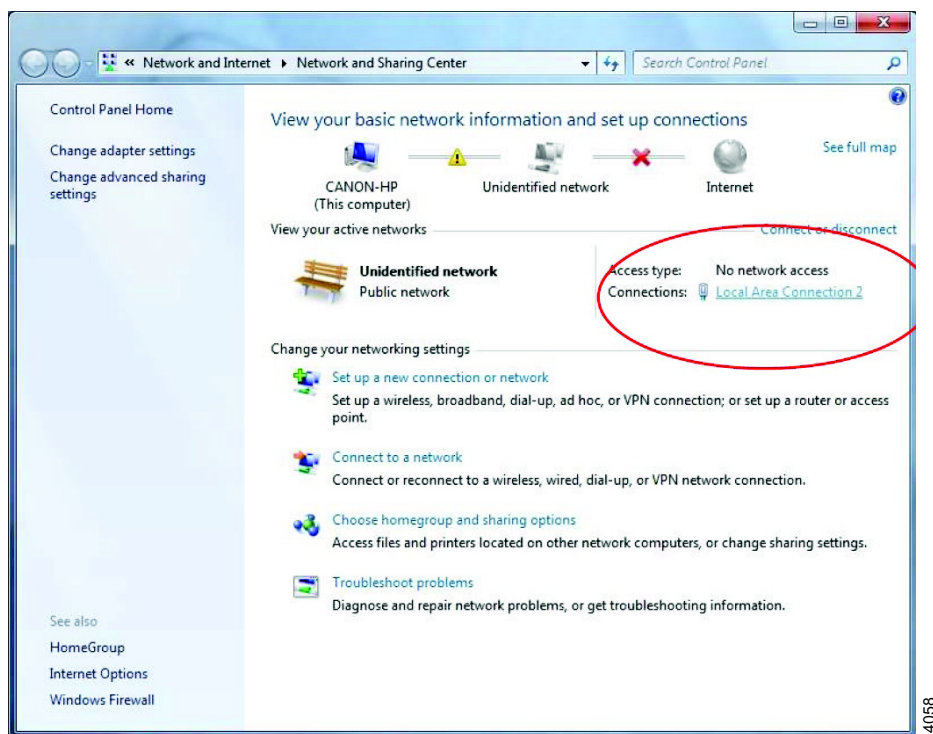

Fig. 5-1 Network and Sharing Center
2. Click the Connection name, can be other than “Local Area Connection 2” as in **Fig. 5-1**.